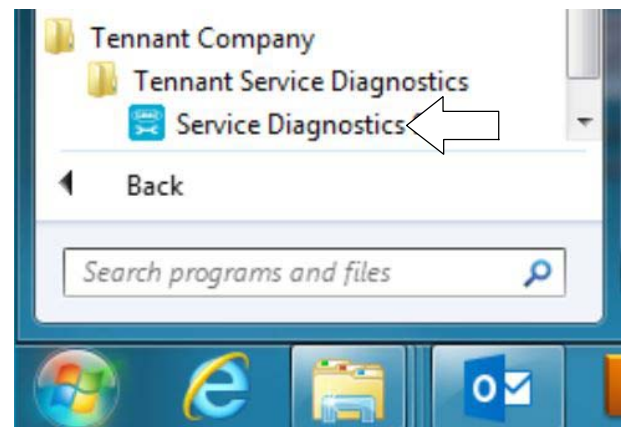

Fig. 8
1. Start the Service Software Application program "Service Diagnostics..." (Figure 2). See Figure 8 for further information.
The software is pre-installed on your computer as shown below. The software application is titled “**Service Diagnostics**” (Figure 8). ServiceLink computers have latest software version.
7. After the service application software is installed on your computer, refer to figure 8 to access the program.
5. After the application software is installed on your computer, refer to figure 8 to access the program.